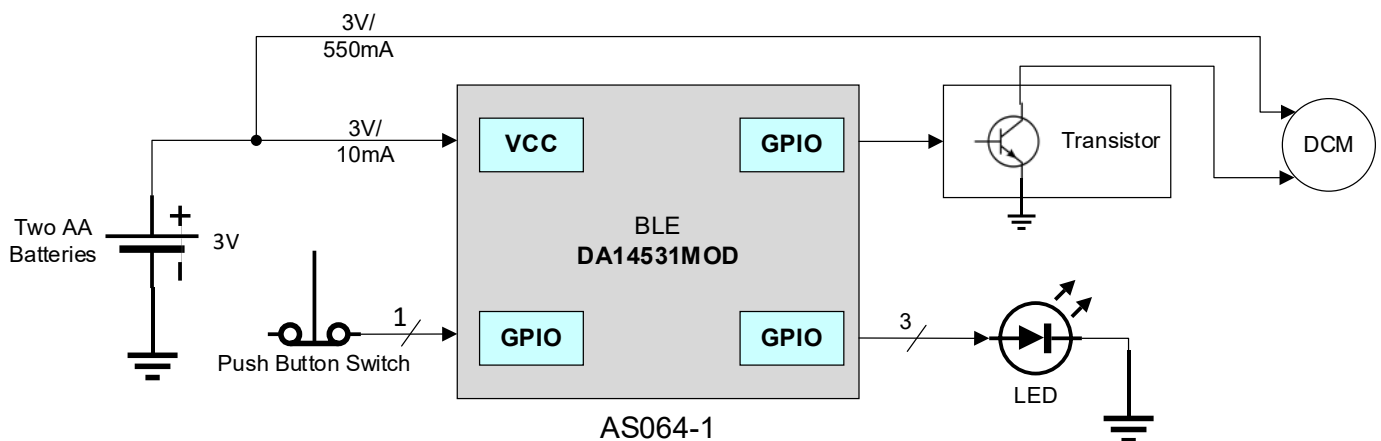

Figure 1. AS064-1 Smart Air Freshener Block Diagram
- Figure 1. AS064-1 Smart Air Freshener Block Diagram 3